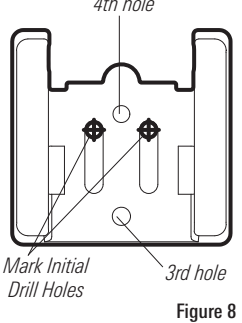

Figure 8
3. Continue to hold the bracket on the transom of the boat, and use a pencil or marker to mark where to drill the two mounting holes. Mark the drill holes near the top of each slot, making sure that your mark is centered in the slot (Figure 8).
1. To lock down the transducer, trace the position of the mounting bracket. Force the pivot to the Up position to gain access to the mounting screws, then re-align the mounting bracket against the transom of the boat to match the traced silhouette. Check the bracket position with the level again to make sure it is still level, then mark the fourth mounting hole using a pencil or marker (Figure 8). Unscrew and remove the mounting screws and the transducer assembly and set aside.